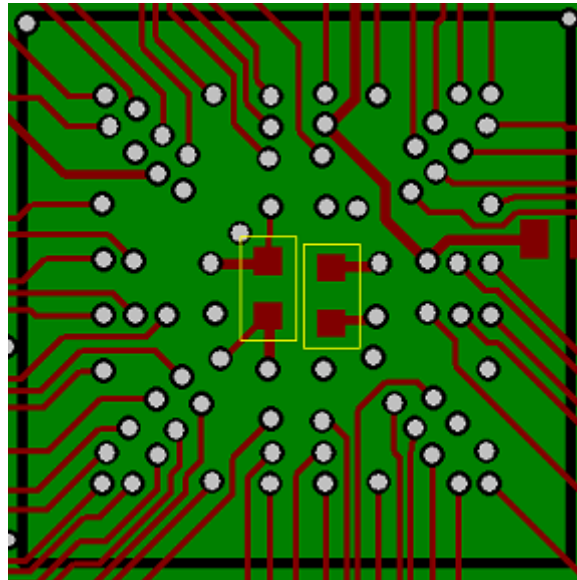

Figure 11. Bottom Layer 212-Ball BGA Escape Routing
- All other balls require vias to the backside or power planes. The placement of the vias is important to enable all traces on the back side to escape. See Figure 11. It may be necessary to use a very small grid spacing to align the vias with 4-mil spacing.
- The location of the vias in the center of the BGA allow for placement of two 0402 decoupling capacitors on the back side of the board directly under the BGA, as shown in Figure 11.
Figure 11 shows the bottom layer escape routing under the BGA from the vias. In the center of the bottom layer are two 0402-sized 0.1- μ F decoupling capacitors connected between VDD and GND.